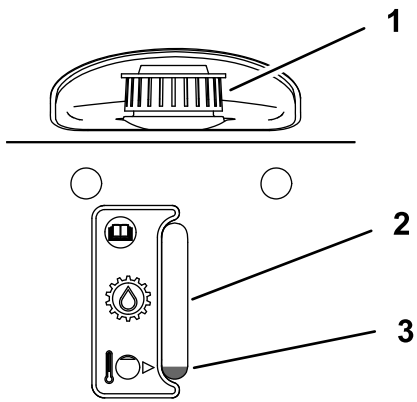

Figure 45
4. Use the sight window to check the fluid level in the expansion tank (Figure 45).
13. Add hydraulic fluid to the expansion tank until it reaches the fluid line (Figure 45).